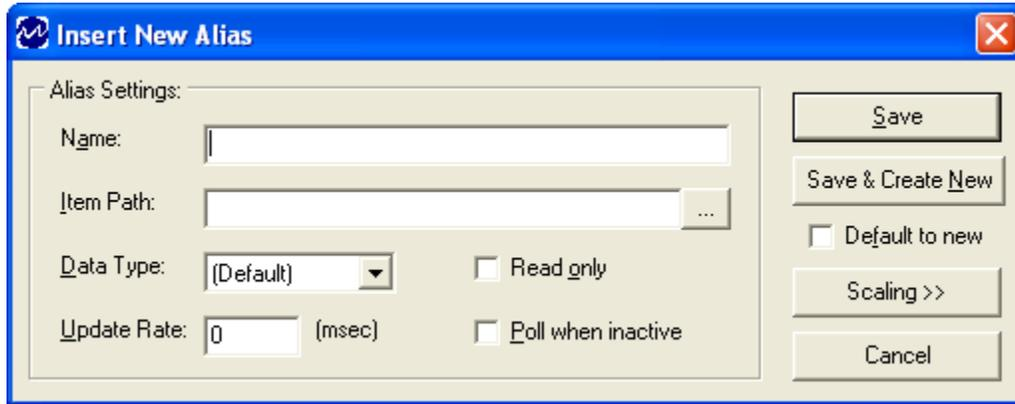

Figure 5 - Insert New Alias Window
8. The **Insert New Alias** window (Figure 5) appears.